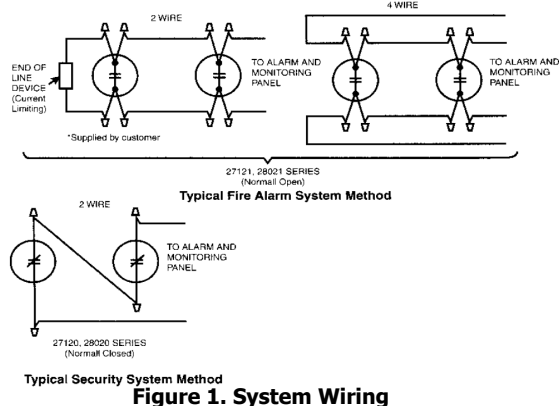

Figure 1. System Wiring
2. Connect system wiring to detector per Figure 1 and applicable electrical codes.